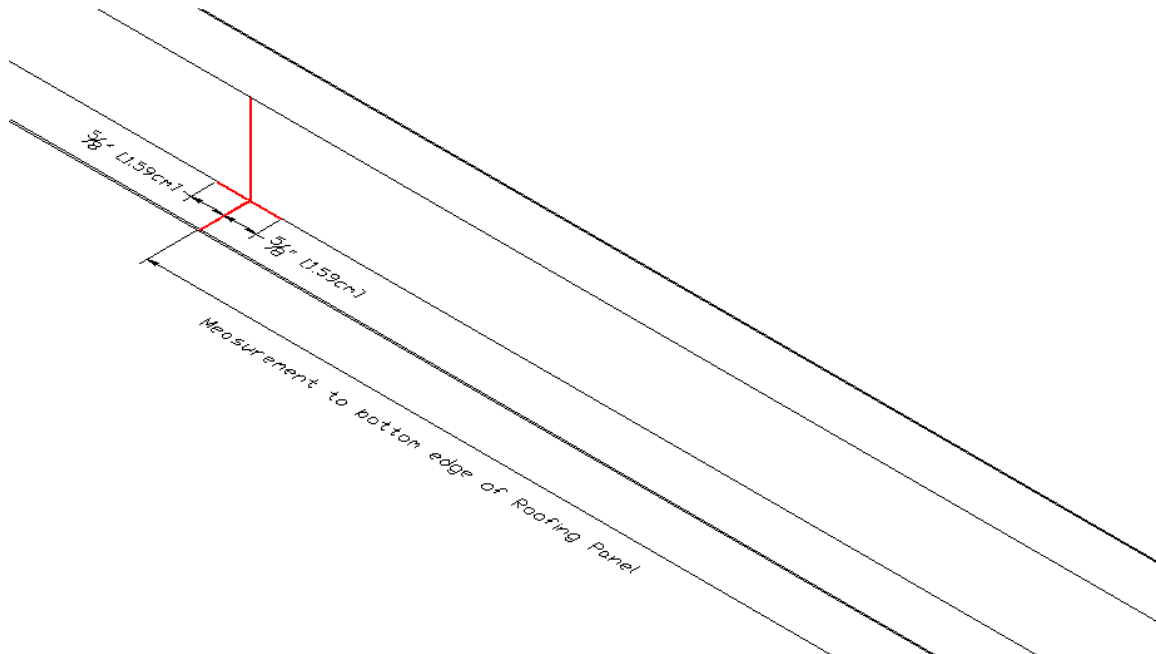

Figure 4.29; Custom Z-Closure Peak Cut, Red indicates cut
Step 8: Cut the Custom Z-Closure through the bottom and middle sections of the “Z”. Do not cut the top section this will be the peak; see Figure 4.29 on Page 4-32.
- Step 9: Cut 5/8_inches (1.59_cm) from the last cut between the bottom and middle sections, both directions; see Figure 4.29 on Page 4-32.